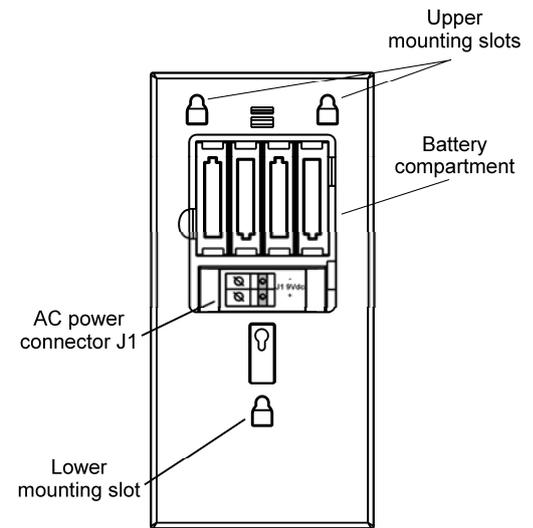

Figure B- 26: Rear View
1. Open the Battery Compartment to gain access to the batteries and AC power connector – see p. 110, Figure B- 26.
Below the batteries you will see the J1 9VDC connector – see p. 110, Figure B- 26.